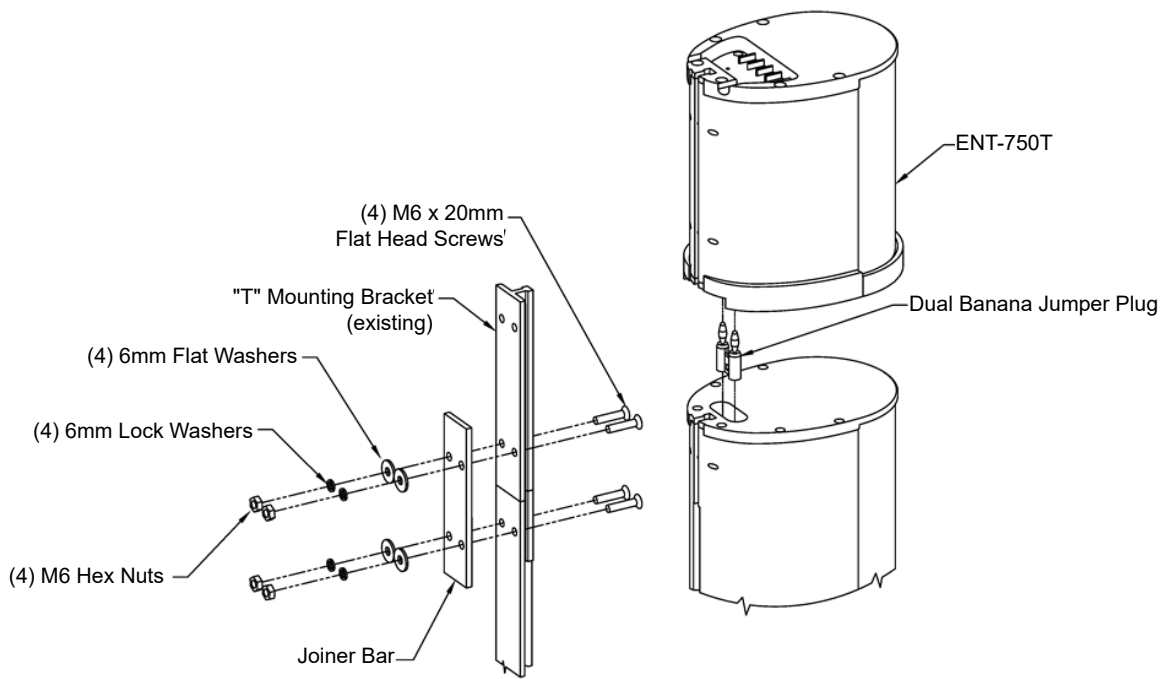

Figure 3. Attach ENT-750T to the top of an ENT array
2. The autoformer may be mechanically attached to the top of an array using the Joiner Bar and the associated hardware that is included with the ENT-750T. This attachment method is shown in Figure 3. Mounting the autoformer in this manner allows the output of the autoformer to be routed to the input of the ENT array via the dual banana jumper plug, also included with the ENT-750T.